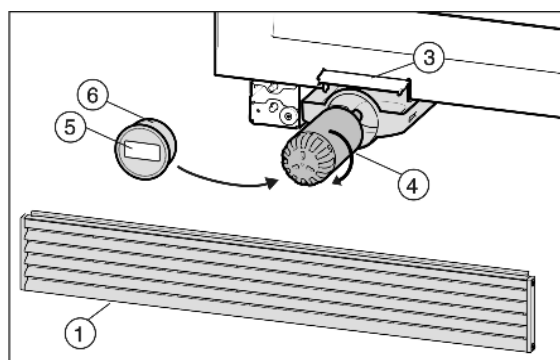

Fig. 9
- ▶ Insert the new filter *Fig. 9 (4)* and turn it about 100° clockwise as far as it will go.
- ▶ Place the cover *Fig. 9 (6)* on the filter.
- ▶ Write the date of the next filter replacement on the supplied adhesive label *Fig. 9 (5)* and affix it to the filter cover *Fig. 9 (6)*.
- ▶ Push in the water filter carriage *Fig. 9 (4)*.
- ▶ Close the filter change flap *Fig. 9 (3)*.
- ▶ Fit the ventilation grid *Fig. 9 (1)* again and push down. It must close flush with the floor.